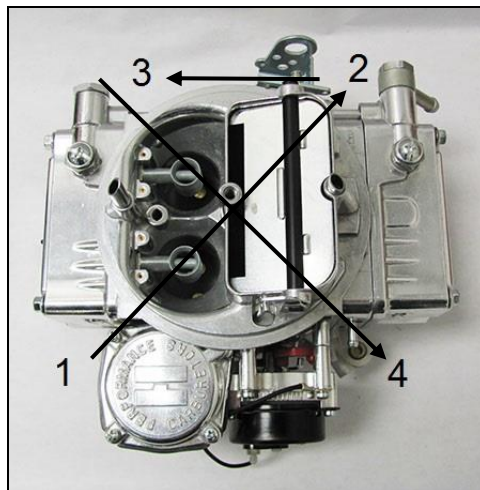

Figure 1—Carburetor torque sequence (all Holley® carburetors)
3. Place the carburetor on top of the flange gasket on the manifold. Install the hold down nuts and snug down progressively in a "crisscross" pattern (60-80 in./lbs.), as shown in **Figure 1**.